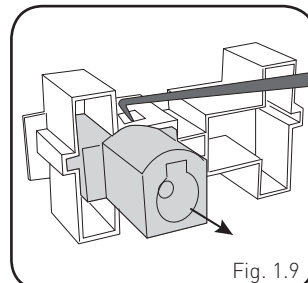

Fig. 1.9
- Determine which USB mounting option you will be using, depending on the year, model and trim the factory USB housing may differ. On vehicles that have removable USB ports, the factory housing may be reused by swapping to the included USB port. (Fig. 1.9) On vehicles where the USB cannot be removed, use the supplied USB housing.